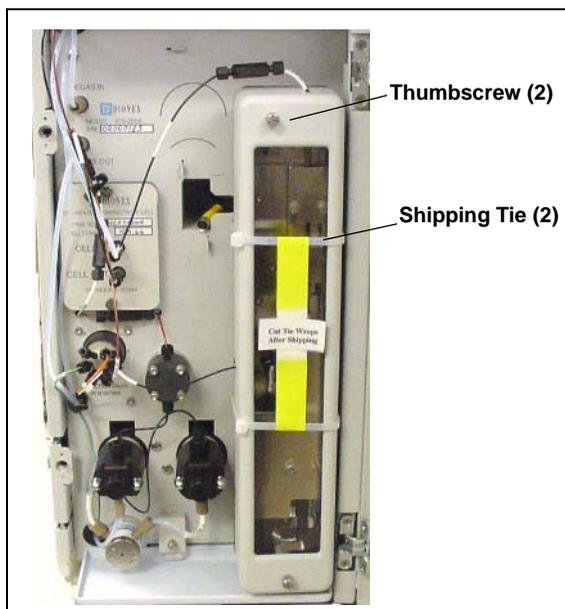

Figure 18. ICS-1000 Column Heater Setup
1. Cut off the two shipping ties from the column heater and remove them (see Figure 18).